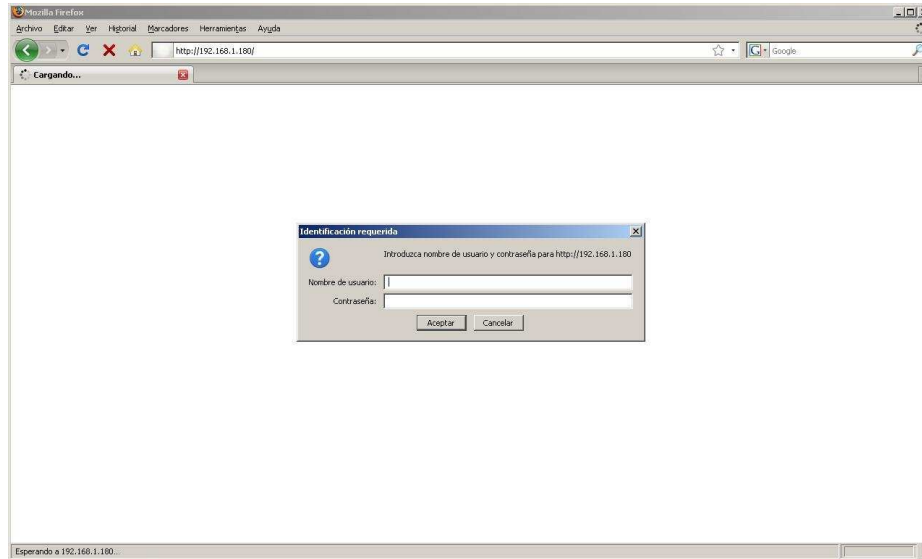

Figure 7.1A
4. With the connection operative, open a browser (firefox, Internet Explorer, opera, etc) and insert in the address bar the PAA29+ IP address. If everything goes as planned, the browser will ask the login name and a password (**Figure 7.1A**), leave the login name and the password blank and accept (Press enter).